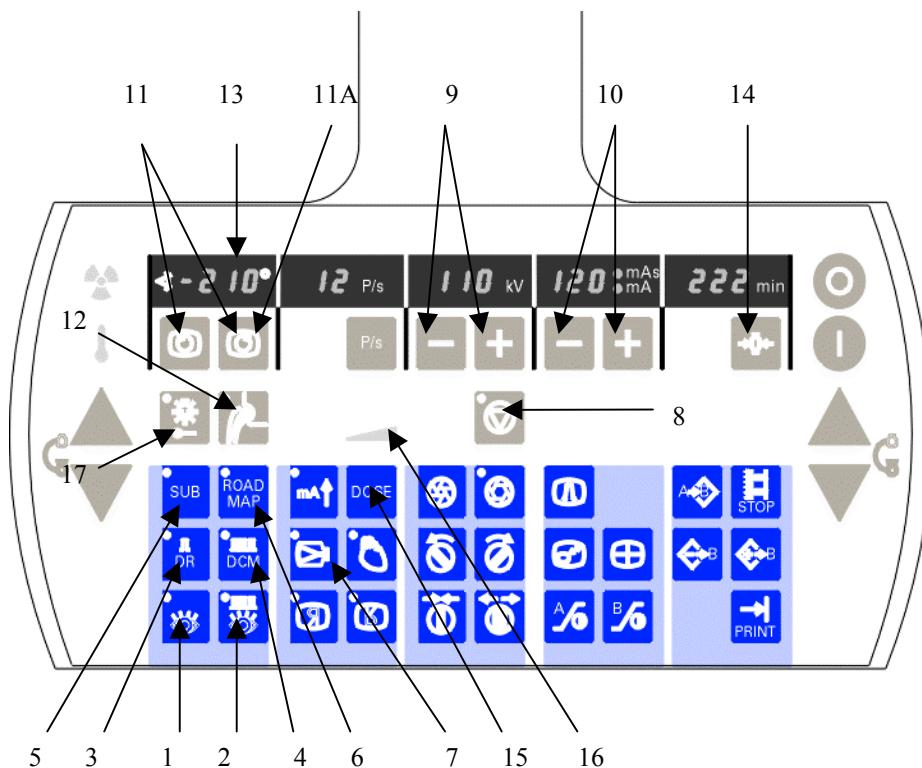

Fig. 1
- Select the DR operating mode. (LED in the key (3/Fig. 1) lights up).
- Select full format. (LED in the key (7/Fig. 1) is off).
- Press one of the keys (10/Fig. 1). The 75 kV curve is selected. 75 kV are shown in the display.
- Select kV stop. (LED in the key (8/Fig. 1) lights up).
- Select dose rate level HIGH (all three LEDs in the display (16/Fig. 1) light up).
- Then set the Brightness Nom. - Brightness Act. deviation with the camera rotation keys (11/Fig. 1), shown in the display (13/Fig. 1) to 0 ± 3 .
- When the key (12/Fig. 1) is selected (LED in the key lights up), the TV iris will move more slowly (fine adjustment).
- Press the key (14/Fig. 1). An acoustic signal sounds. The current TV iris diaphragm position will be stored.
- Then press the key (17/Fig. 1). An acoustic signal sounds (Multiple "beep"). All TV iris diaphragm values will automatically be calculated and stored.